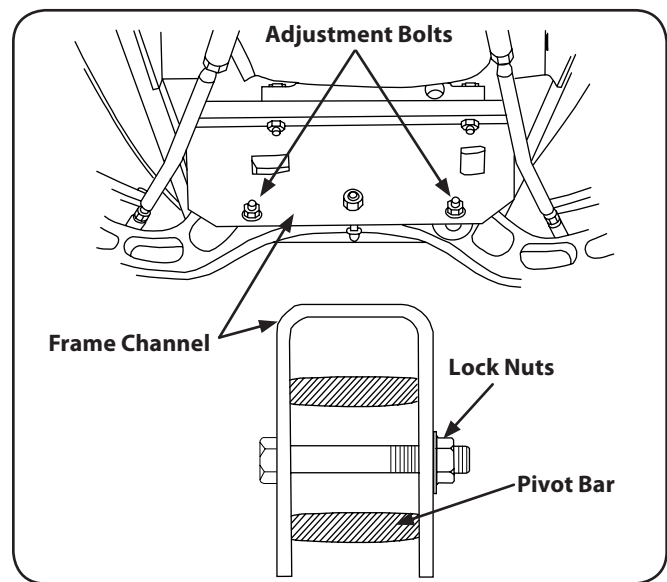

Figure 6-8
- Move the ends of the pivot bar up and down to check for binding. If binding is present, loosen the lock nuts until binding is eliminated. See Figure 6-8.